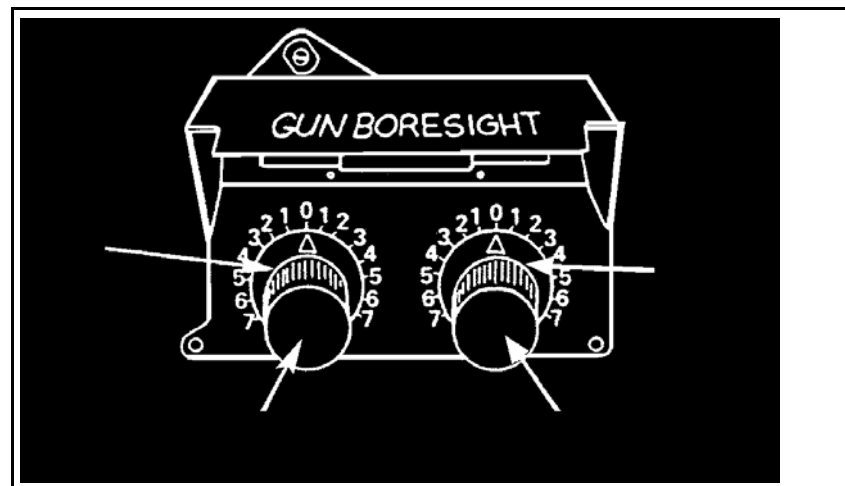

Figure 6. Gun boresight cover.
- (1) Open the gun boresight cover (Figure 6).
- (2) To adjust the reticle, turn the elevation and azimuth boresight adjustment knobs to center the reticle crosshairs on the strike of the round.
- (3) Close the gun boresight cover (Figure 6).